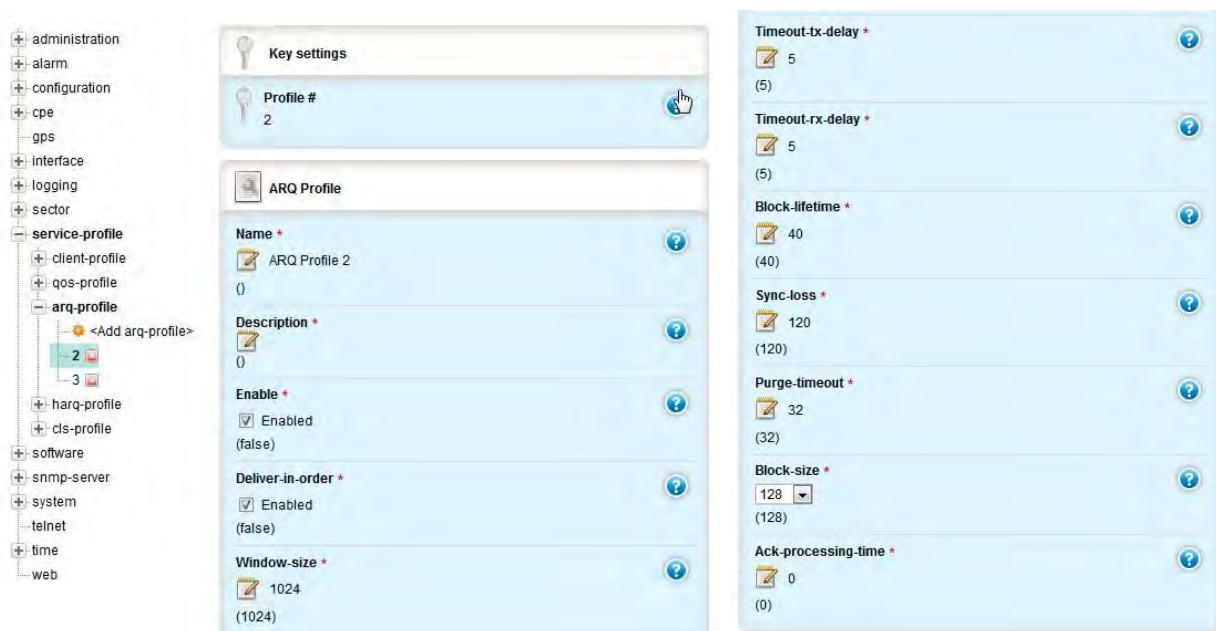

Figure 114 Service Profile ARQ Profile Edit Capability
- A List of all the profiles with a red box beside each profile. If the User navigates to the red icon then this will present the User with the ability to delete the profile (Figure 114).